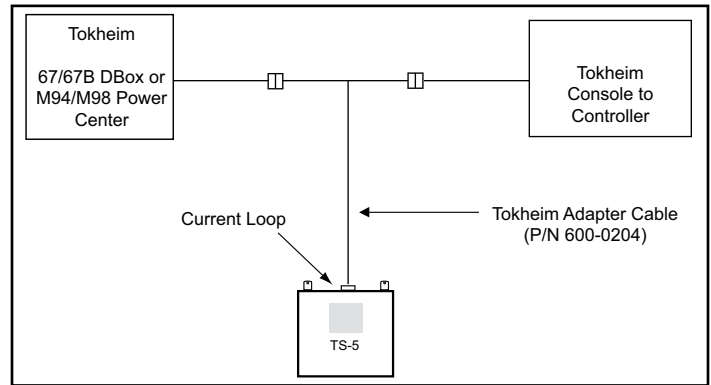

Figure 8: Connecting to Tokheim - Typical Installation
4. Attach the Tokheim Dispenser Interface Cable (p/n 600-0204) to the cable ends from the console/controller and from the D-Box/power center (Figure 8).